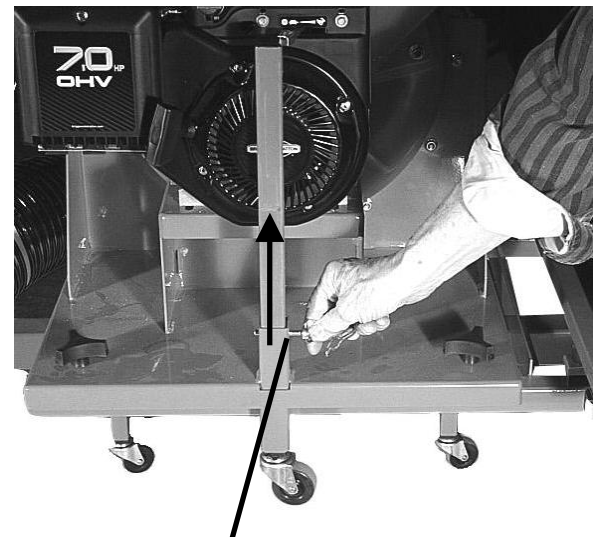

Figure 18
3. Raise the three Support Legs on the trailer frame by removing the Safety Hitch Pins and reposition them into the lower holes provided in the leg shafts (*Figure 18*).
1. Connect the DR LEAF and LAWN VACUUM to your lawn tractor (see page 18) and raise the three Support Legs into the mounting frame by repositioning the quick release pins into the lower holes provided in the leg shafts (see *Figure 18* on page 18).
2. Raise the three Support Legs into the mounting frame by repositioning the Safety Hitch Pins into the lower holes provided in the leg shafts (see *Figure 18* on page 18).